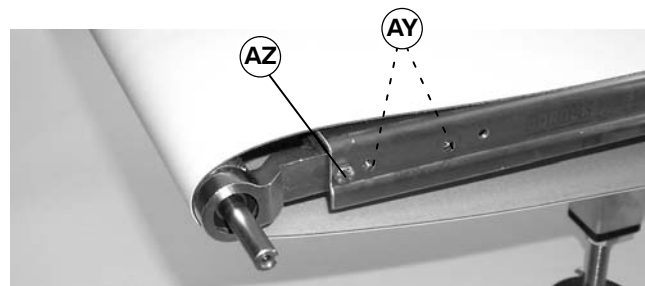
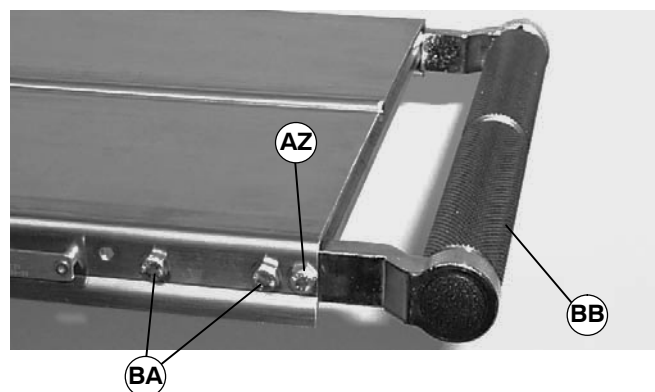
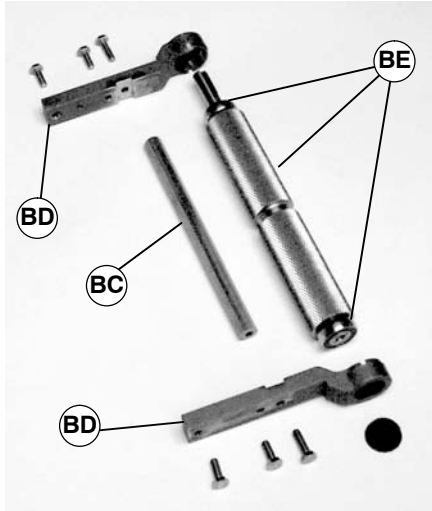

Figure 28
Figure 29
Figure 30
NOTE: Two screws (AY of Figure 28) were removed in step 1.
Cross support post (BC of Figure 30) will not be secure and may drop when screws (AZ of Figures 28 and 29) are removed.
2. Remove screw (AZ of Figures 28 and 29) from each side of conveyor.
NOTE: For a conveyor with a Heavy Load Bottom or Top Gearmotor Mounting Package, the two screws (BA of Figure 29) were removed in step 1.
Drive spindle assembly (BB of Figure 29) will not be secure and may drop when screws (AZ and BA of Figures 28 and 29) are removed.
3. Remove two screws (BA of Figure 29) from side of conveyor opposite drive shaft.
4. Remove drive spindle assembly (BB).
5. Remove cross support post (BC of Figure 30).
6. Remove two head plates (BD).
7. Remove drive pulley and bearing assembly (BE).